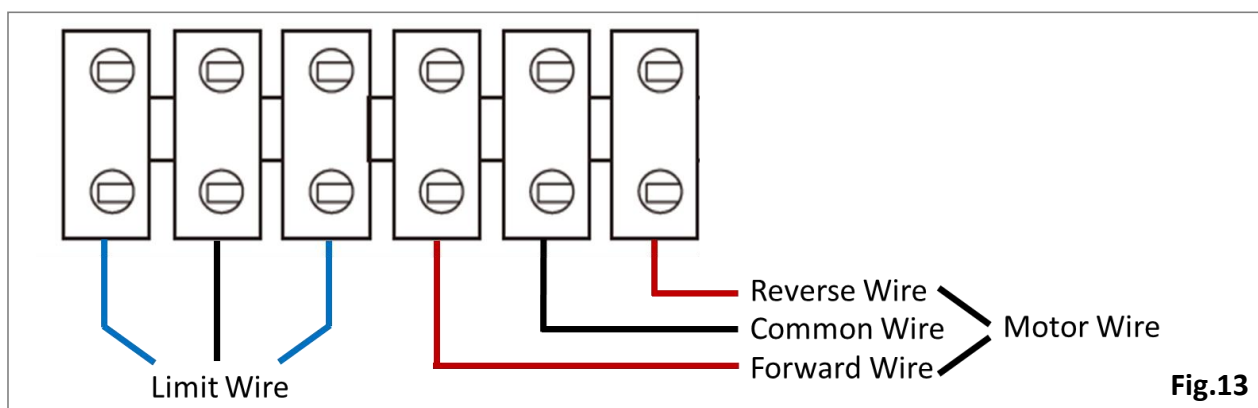

Fig.13
5.4 Limit & Motor Wiring Diagram (Fig.13)